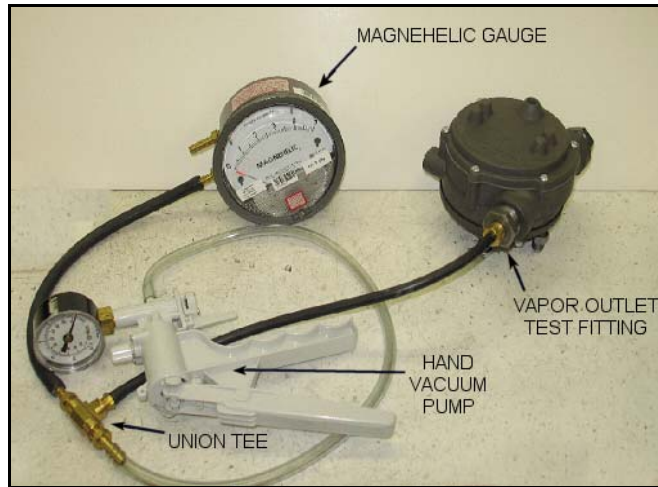

Figure 30. Secondary Stage Test Connection
1. Connect the vacuum pump, the Magnehelic gauge, and the regulator vapor outlet to the Union Tee fitting (**Figure 30**). Make sure there is no leakage at any of the fittings.